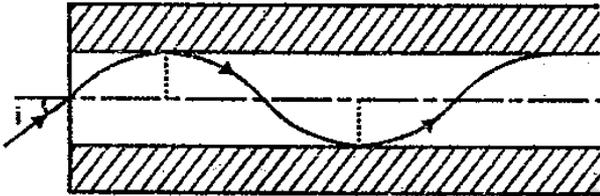

Fig. 3
- GRIN fiber is shown in Figure 3.